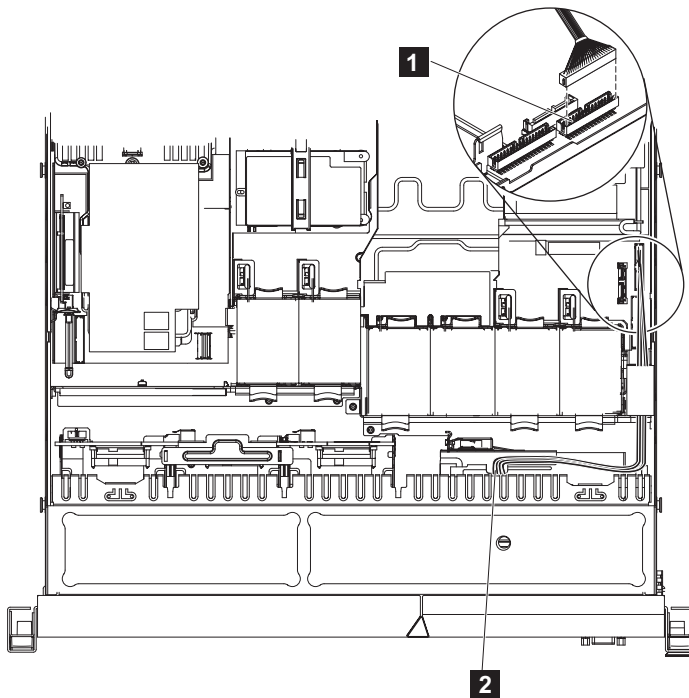

Figure 233. Connecting the SAN Volume Controller 2145-CG8 or 2145-CF8 operator-information panel cable
2. Thread the new cable from the operator-information panel to the connector above the Video/USB cable connector on the right side of the node, as shown in Figure 233.
3. Connect the cable to the connector above the Video/USB cable connector on the right side of the node, as shown in Figure 233.